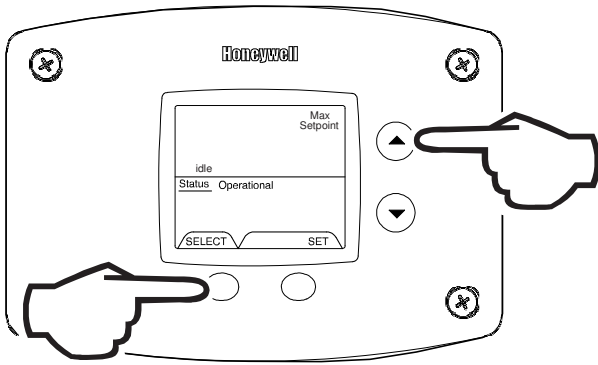

Fig. 43
5. 30 Seconds after the last button press, the Water Heater Display will go back to 'User Mode'. It will read 'Max Setpoint' without showing a temperature value if the temperature setpoint is at the maximum setting. The Water Heater Display can be set back to the 'User Mode' immediately by pressing both the 'Temperature Up' and 'Select' buttons together for 3 seconds (Fig. 43).